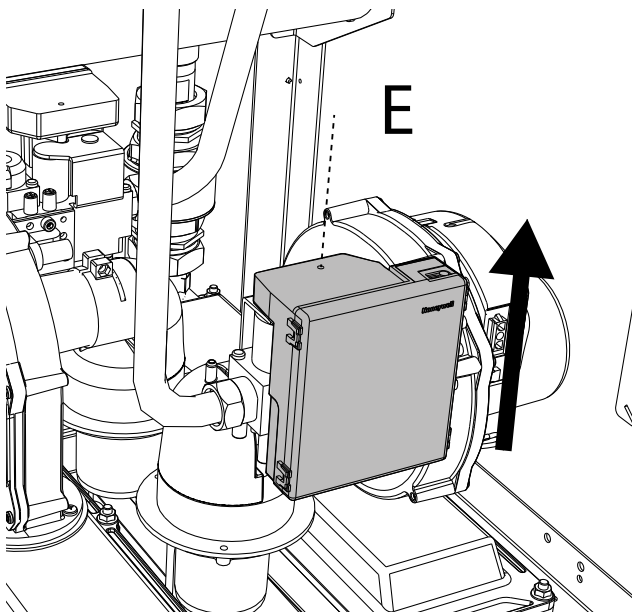

fig. 77
2. Undo the screw “E” and remove the control unit from the gas valve (fig. 77).